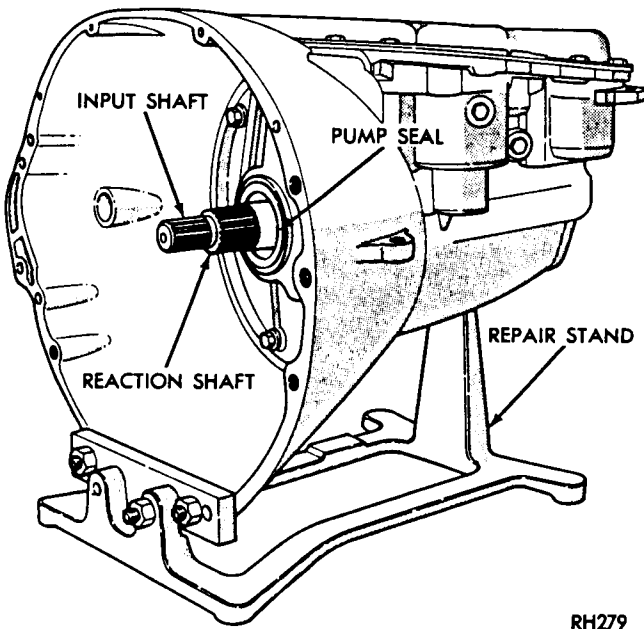

Fig. 6—Transmission in Repair Stand
(1) Place transmission assembly in repair stand, Tool C-3750-A (Fig. 6).
(2) Unscrew oil pan bolts and remove oil pan and gasket.